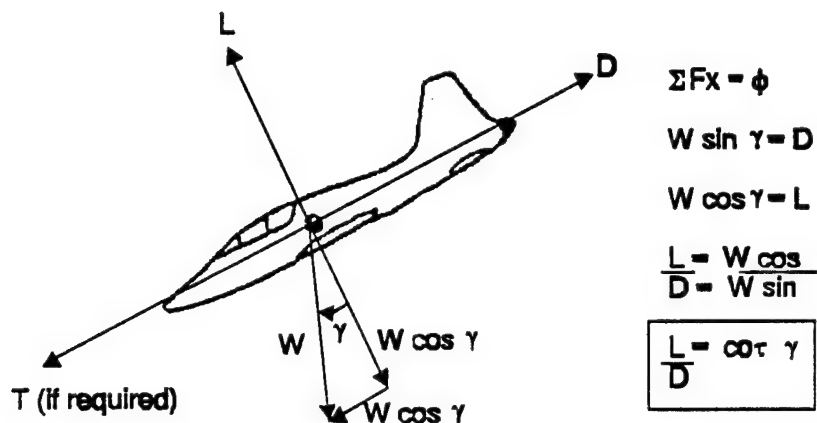

FIGURE 1
c. The particular L/D ratio of any unpowered vehicle defines the flight-path angle as shown in Figure 1. For training and simulation purposes, the simulator aircraft should be matched to the test aircraft's L/D or drag polar at the same equivalent airspeeds. Two primary methods used to obtain the desired L/D are changes in drag and airspeed; both will be investigated on this mission.
**NOTE:** Assume  $\alpha_T$  is negligible and the thrust vector (T) is aligned with flight path and opposite to D.
d. The first method of L/D control is variation in drag. In this case,  $C_L$  and the velocity profile remain constant and  $C_D$  is varied to adjust to the desired L/D. Since the T-38A must be flown in a set landing configuration to achieve the desired low L/D ratios, thrust (rpm) changes are made to simulate varying drag, and to compensate for changes in aircraft gross weight. Thrust settings are also varied to compensate for changes in altitude. Basically, rpm settings will be increased as gross weight decreases to offset the decreased component of the weight vector down the flight path (see Figure 1). The effect of thrust and drag variations on L/D ( $C_L/C_D$ ) is shown on the drag polar in Figure 2. A list of approximate thrust settings for a